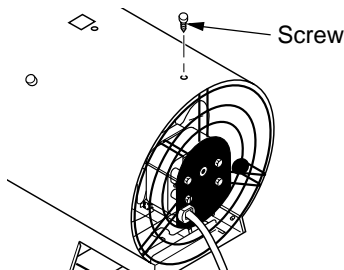

Figure 3 - Removing Screw from Top of Fan Guard
1. Remove screw from top of fan guard (see Figure 3). Discard screw.